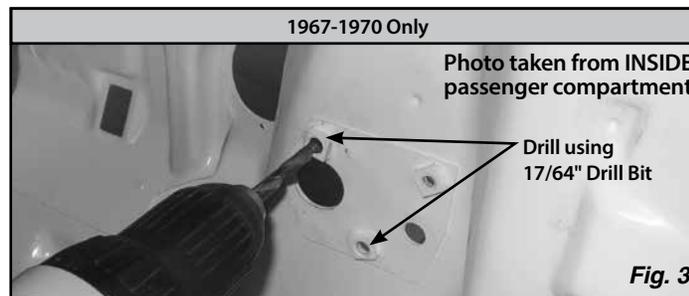

Fig. 3
Step 3: Using a 17/64" (0.2656") drill bit, drill out **ONLY TWO** of the three original mounting holes where the factory pedal was mounted to the firewall: the upper left, and the lower middle bolt holes. The arrows in **Fig. 3** show which holes are to be drilled out (photo taken from INSIDE the passenger compartment).